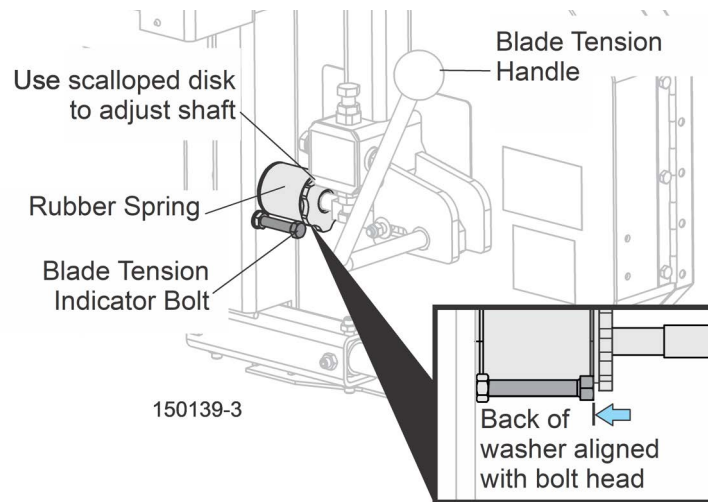

FIG. 3-5
4. Make sure the teeth are pointing the correct direction. See FIG. 3-5.